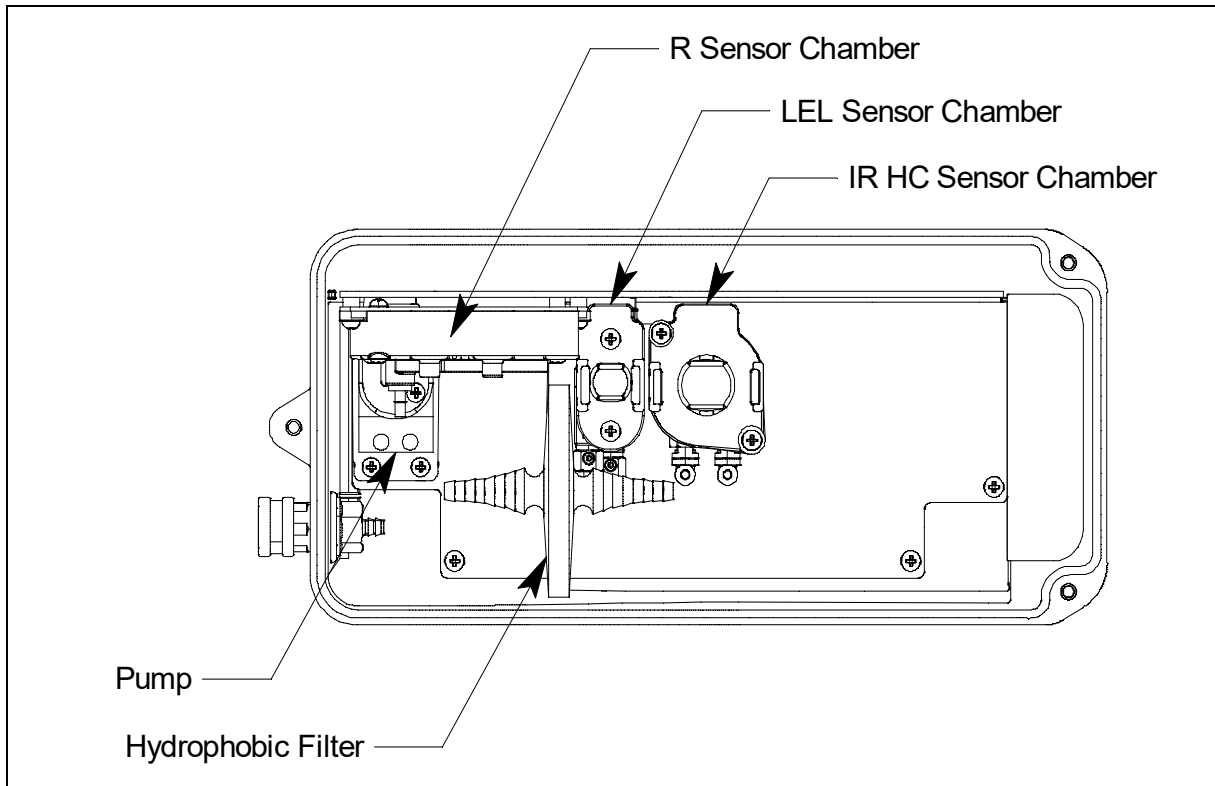

Figure 46: Typical IR HC Sensor Location
The infrared hydrocarbon sensor is a smart sensor that stores the target gas. The infrared hydrocarbon sensor is installed in a single sensor flow chamber which is located in the area next to the LEL sensor chamber. This area can accommodate up to three single sensor flow chambers. Figure 46 above illustrates a typical infrared hydrocarbon sensor location. The infrared hydrocarbon flow chamber may also be installed in one of the other two sensor chamber locations depending on the particular version of the EAGLE 3. Some infrared hydrocarbon instrument configurations do not include the LEL sensor chamber.
6. Locate the infrared hydrocarbon sensor and retainer. Figure 46 on page 239 shows an infrared hydrocarbon sensor in a typical location.